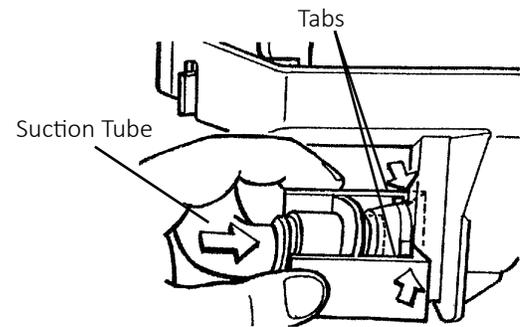

Fig. 27
4. Reconnect the suction tube as illustrated. See Fig. 27. Make sure the tabs lock into place; a loose fitting may cause a water leak.